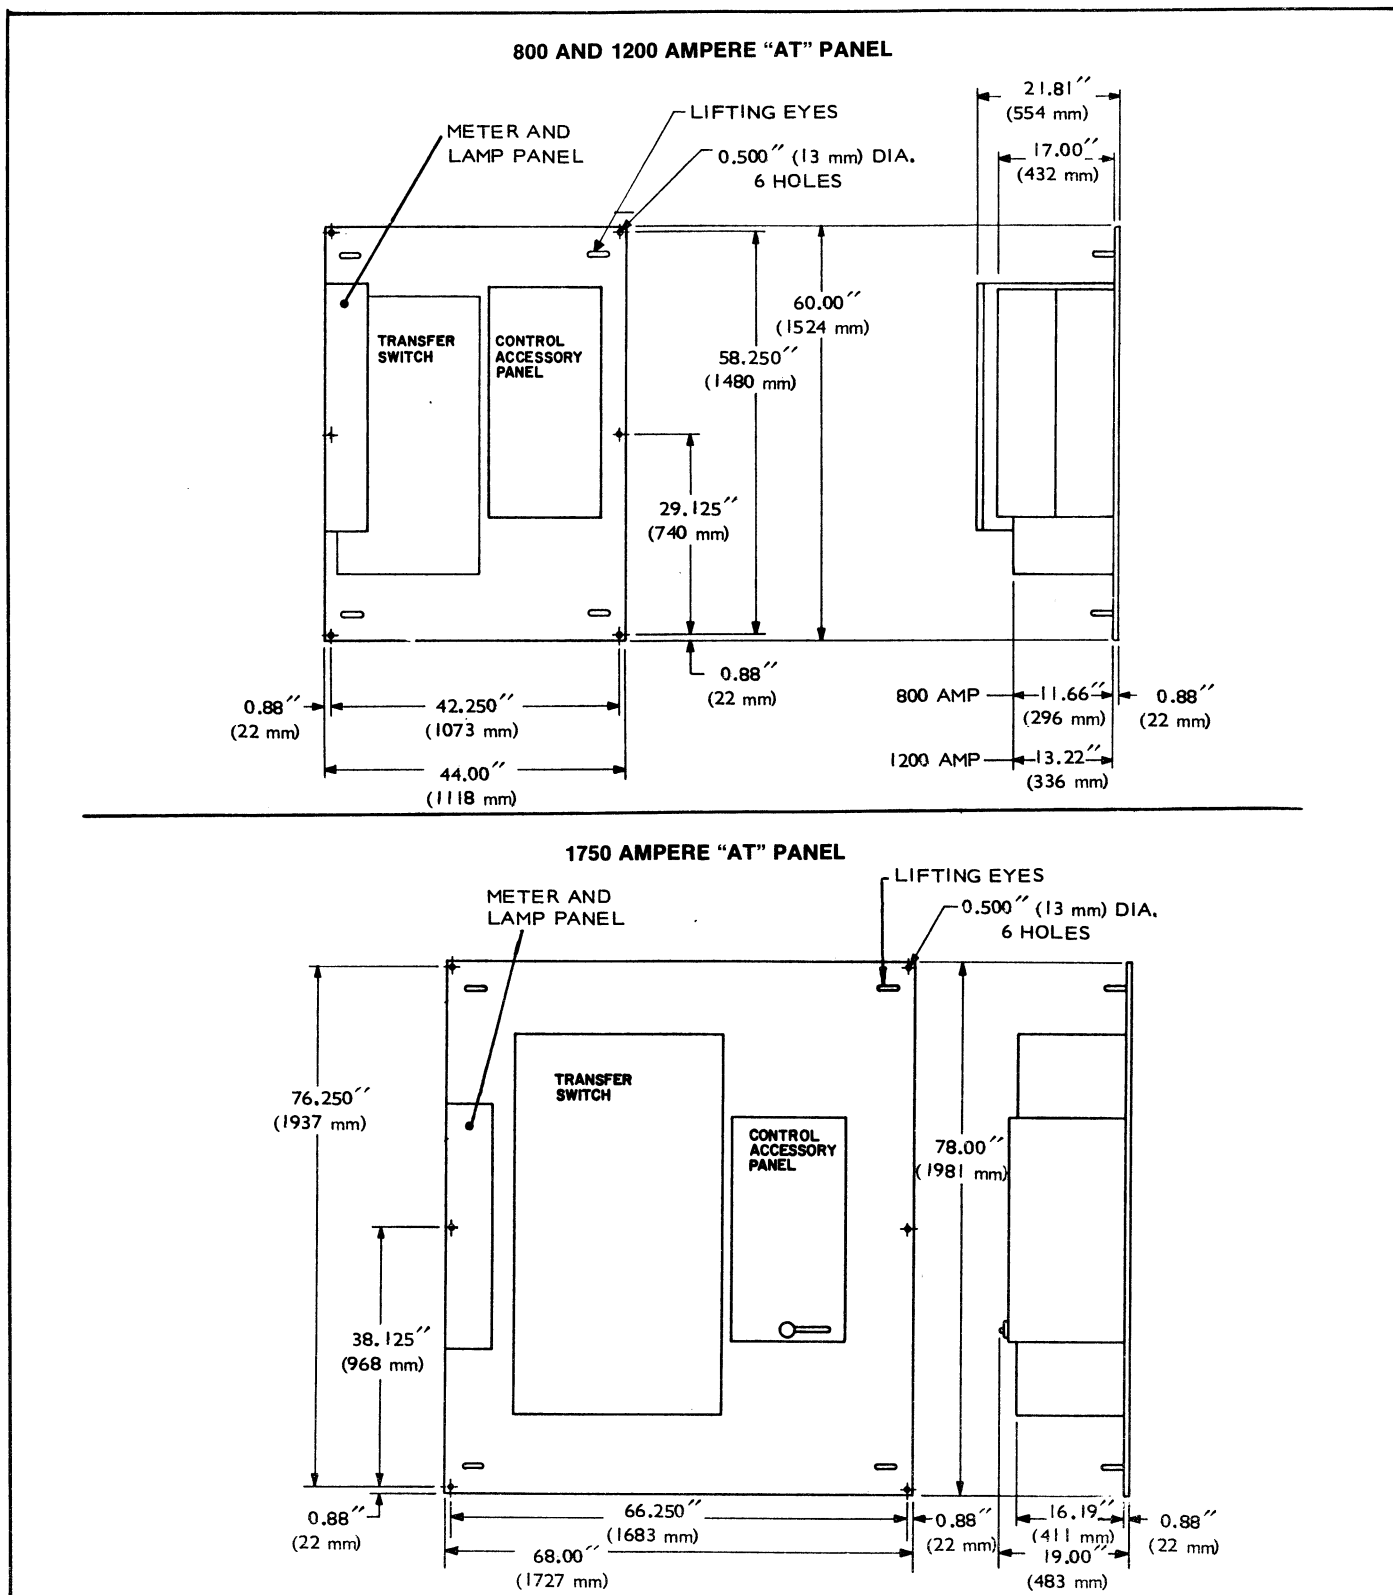

FIGURE 3. DIMENSIONS OF OPEN-CONSTRUCTION "AT"
2. Six 0.50-inch (13 mm) diameter mounting holes are furnished in the metal panel of the open-construction AT. To determine mounting location, refer to Figure 3 which gives the dimensions of the panel and mounting hole locations.
2. Six 0.50-inch (13 mm) diameter mounting holes are furnished in the metal panel of the open-construction AT. Figure 3 gives the dimensions of the panel and location of mounting holes.
If the cubicle is not an Onan cabinet, locate and drill 0.50-inch (13 mm) diameter holes in the rear of the cabinet to match holes of AT panel (see Figure 3). Furnished cubicle must be at least 21 inches (533 mm) deep for 800 and 1200 ampere